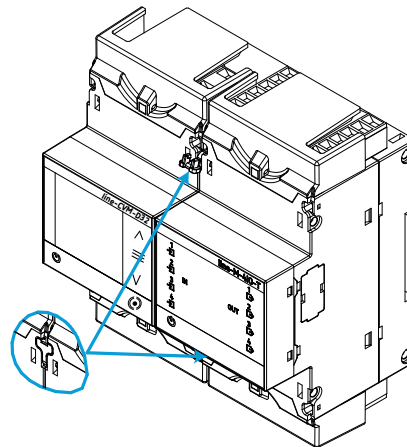

Figure 10: Installation step 3.
3.- Connect both devices and fasten them by pushing the front clips down (Figure 10).